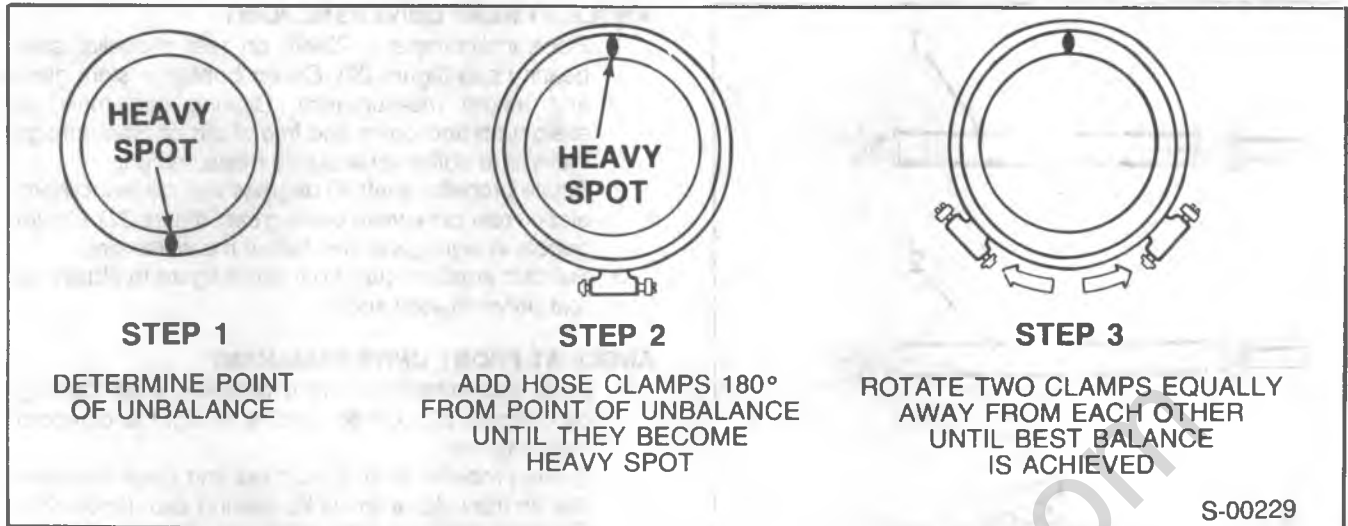

Figure 16—Positioning Hose Clamps to Achieve Best Balance
7. Rotate two of the hose clamps equally away from each other toward the top (one on each side of the position) in small increments until the best balance is achieved (figure 16).